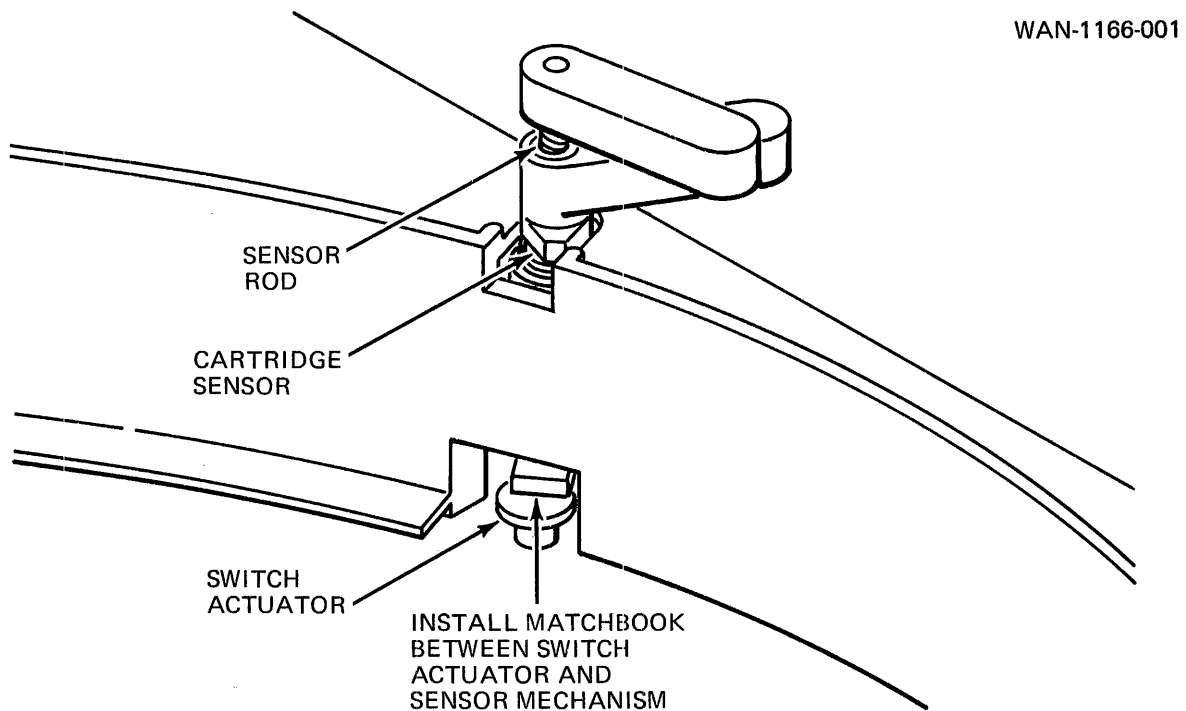

Figure 2-6. By-Passing Top Cover Interlock Switch
2.3.7.3 Preliminary Power On Procedure. With the top cover removed and using a Customer Engineer (C.E.) test hub, the top cover interlock switch will be activated. Power cannot be applied to the spindle drive motor. In the SF unit, this is a button-type switch protruding from the base. Place a piece of masking tape over the switch. In the ST unit, install a matchbook cover or similar device between pack sensor and switch actuator. See Figure 2-6.